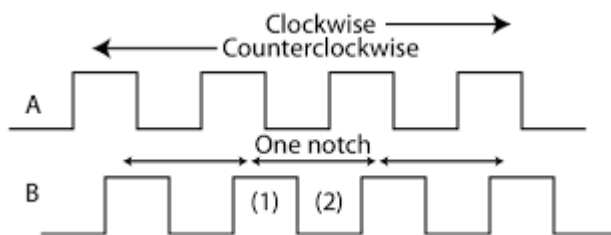

Figure 20 – Quadrature Encoder Output Signals
The encoder outputs two signals, A and B, according to Figure 20 below. The two signals vary over four states (A,B): (0,0) (1,0) (1,1) (0,1). Depending on rotation direction the four states are traversed from left to right or right to left.
Another method to detect rotations is to detect negative edges on signal A. The level on signal B (high or low) at this point in time determines the direction. Position (2) in Figure 20 above represents the counterclockwise direction (B is low) and (1) represents the clockwise direction (B is high).